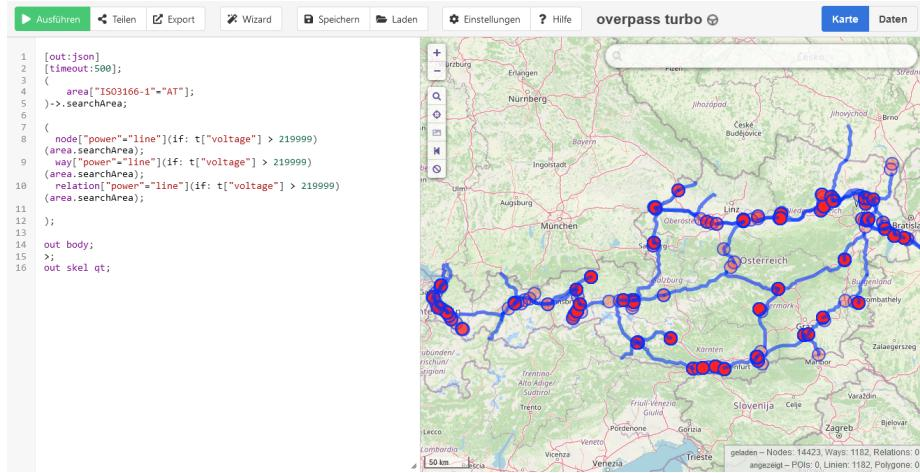

Figure 8: Result for Austria’s transmission lines.
2. The result should look like Figure 8.